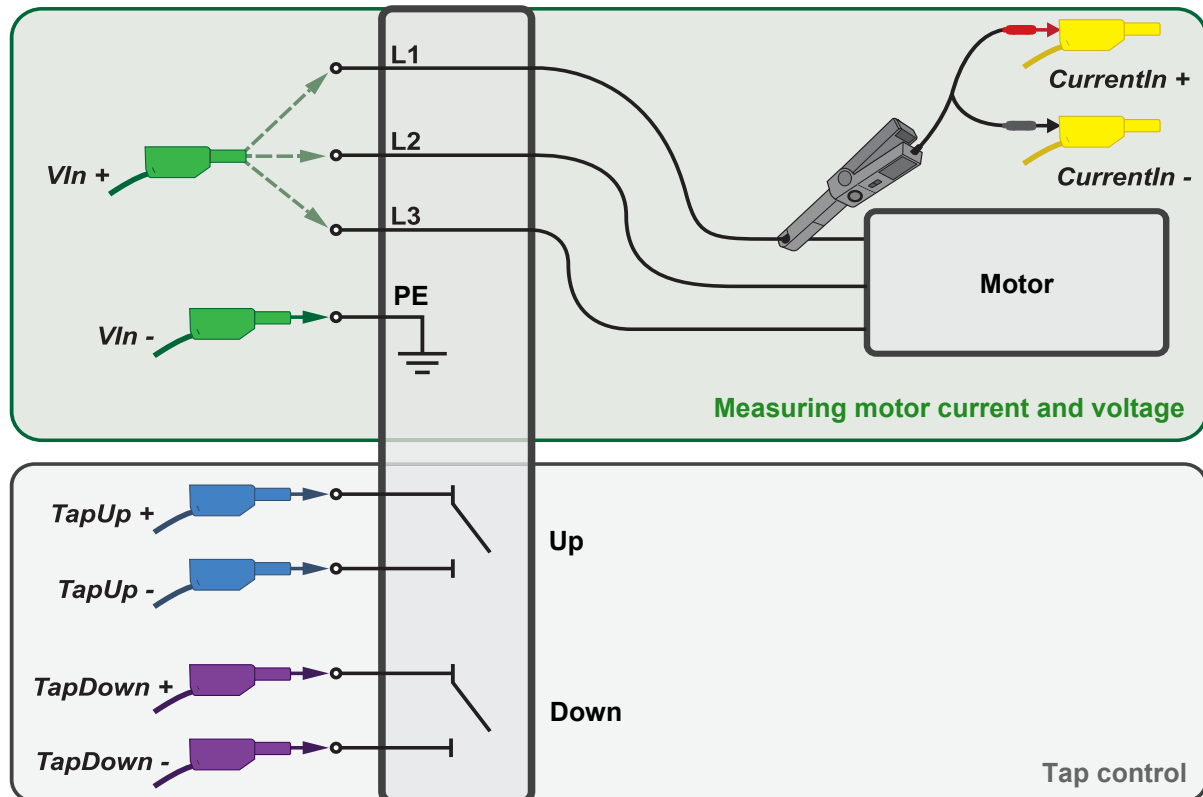

Figure 4-2: Connection scheme tap changer cable to tap changer
- III. Connect the tap changer cable to the appropriate terminals in the control cabinet of the transformer (see Figure 4-2 below).